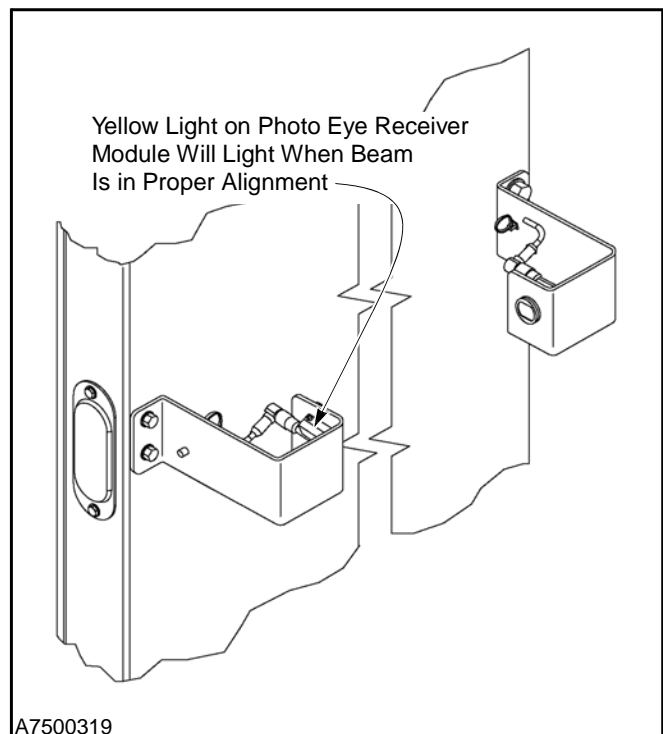

Figure 50
1. Check to see that the photo eye on the front side of the door has been installed for a horizontal beam across the door opening. (See Figure 50.)
(See Figure 50.)